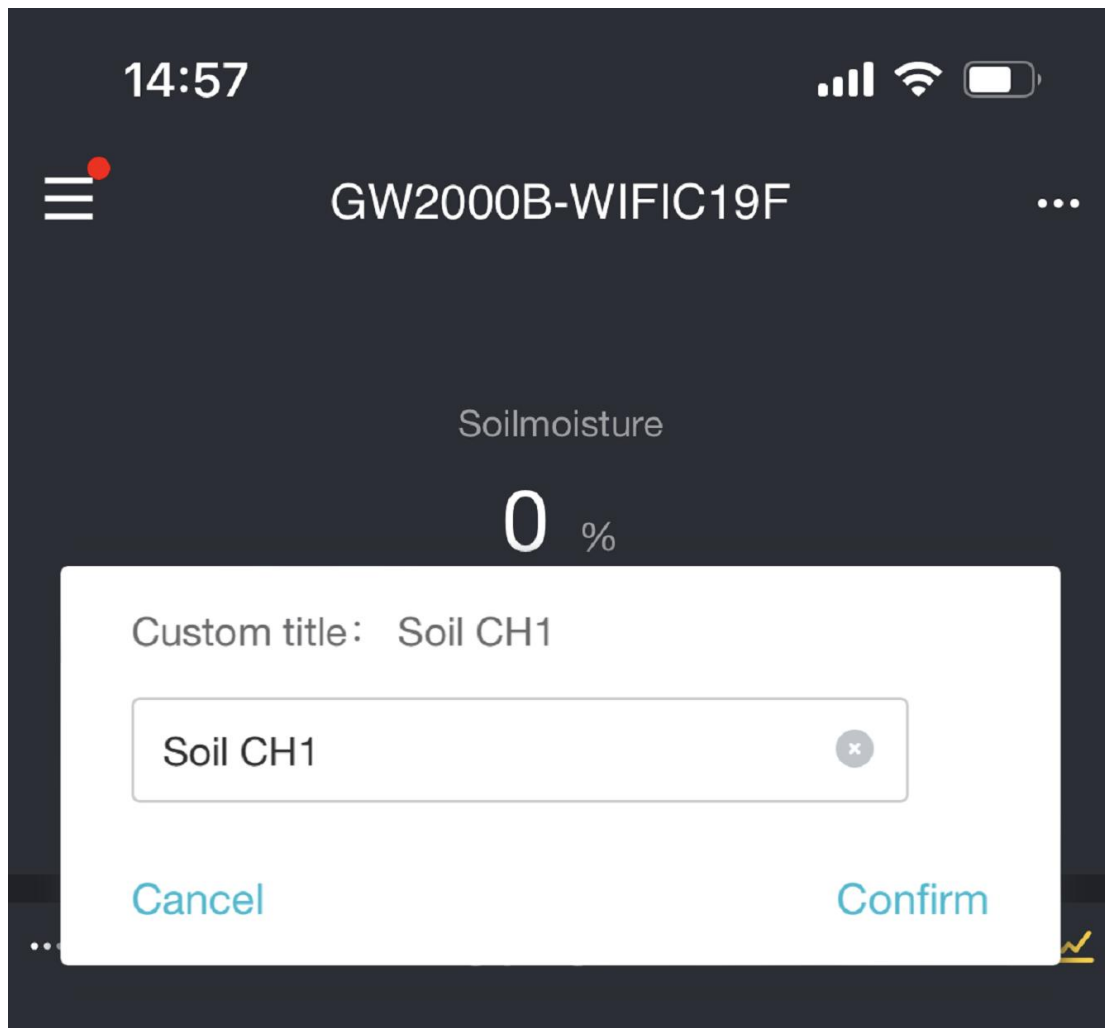
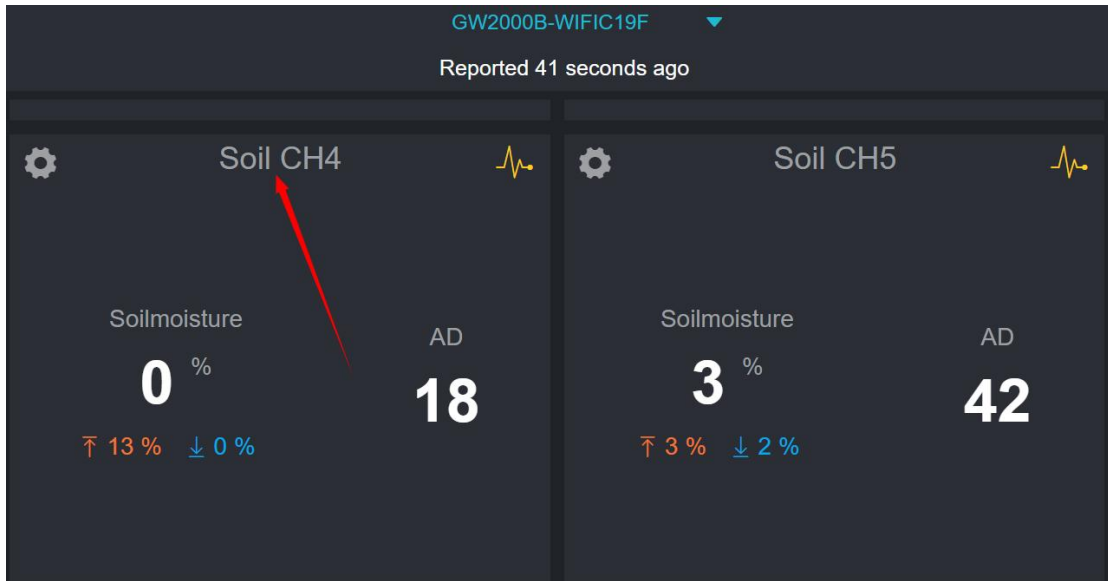
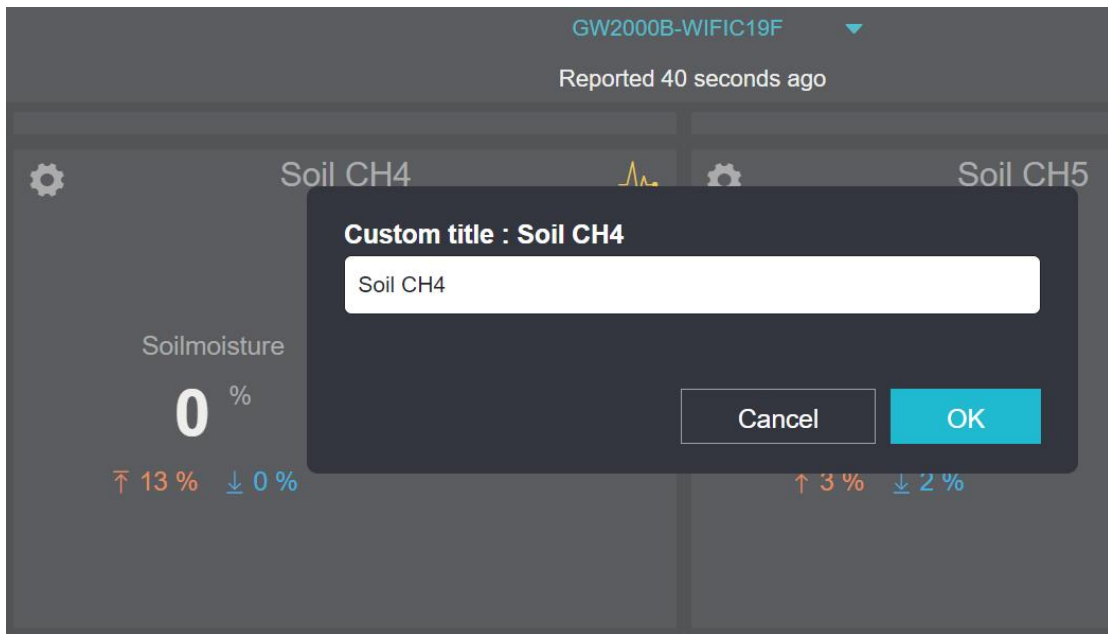

Figure 20
Figure 21
Figure 22
- Edit the channel name on the pop-up and finally click Confirm, like the Figure 20.
- Find your sensor's channel and directly click the channel title, for example, click the 'Soil CH4' like the Figure 21.
- Edit the channel name on the pop-up and click 'OK' like the Figure 22.
- The channel's names could only be edited on the Ecowitt APP or website (ecowitt.net). For example, when you edit the channels' names on Ecowitt app, please refer the Figure 18~ Figure 19; when you edit the channels' names on ecowitt.net, please refer the Figure 21~ Figure 22.
The channel's names could only be edited on the Ecowitt APP or website (ecowitt.net). For example, when you edit the channels' names on Ecowitt app, please refer the Figure 19~ Figure 20; when you edit the channels' names on ecowitt.net, please refer the Figure 21~ Figure 22.